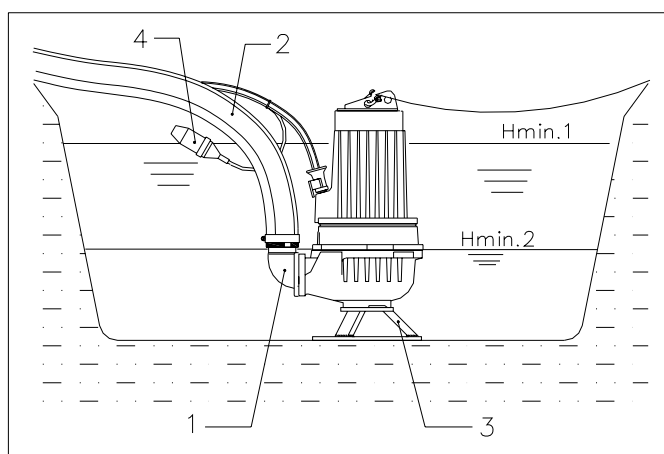

Fig. 6.8
- Check that the motor is adequately cooled. The motorhousing should be at least 2/3 submerged for continuous operation at full load (see Hmin.1 Fig. 6.8).
For interrupted level controlled operation, less cooling is required. We recommend not to run the pump with the water level below the top of the volute in order to avoid air being drawn in (see Hmin.2 Fig. 6.8). Air in the discharge pipes might impair performance.